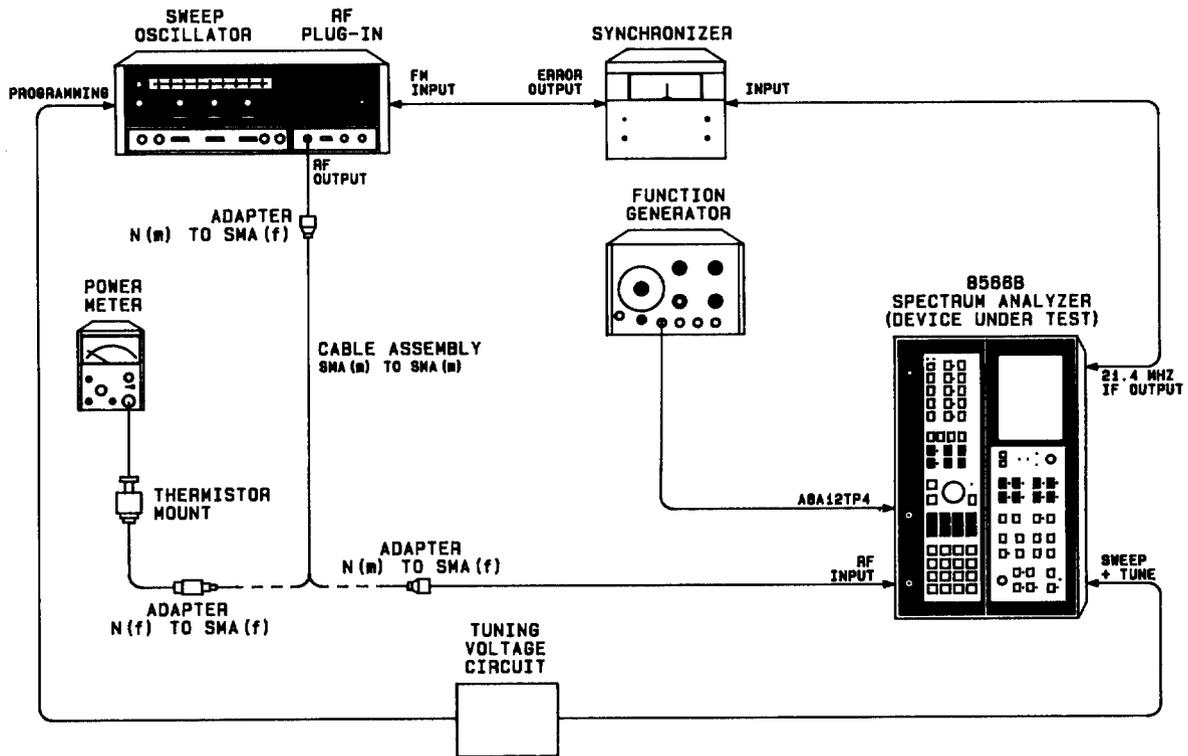

FIGURE 70. FREQUENCY RESPONSE ADJUSTMENTS SETUP (2.0 - 18.6 GHz)
20. Replace HP 86222A RF Plug-In with HP 86290B RF Plug-In (2-22 GHz) and connect equipment as shown in Figure 70, with power meter/mount connected to sweep oscillator without attenuator.